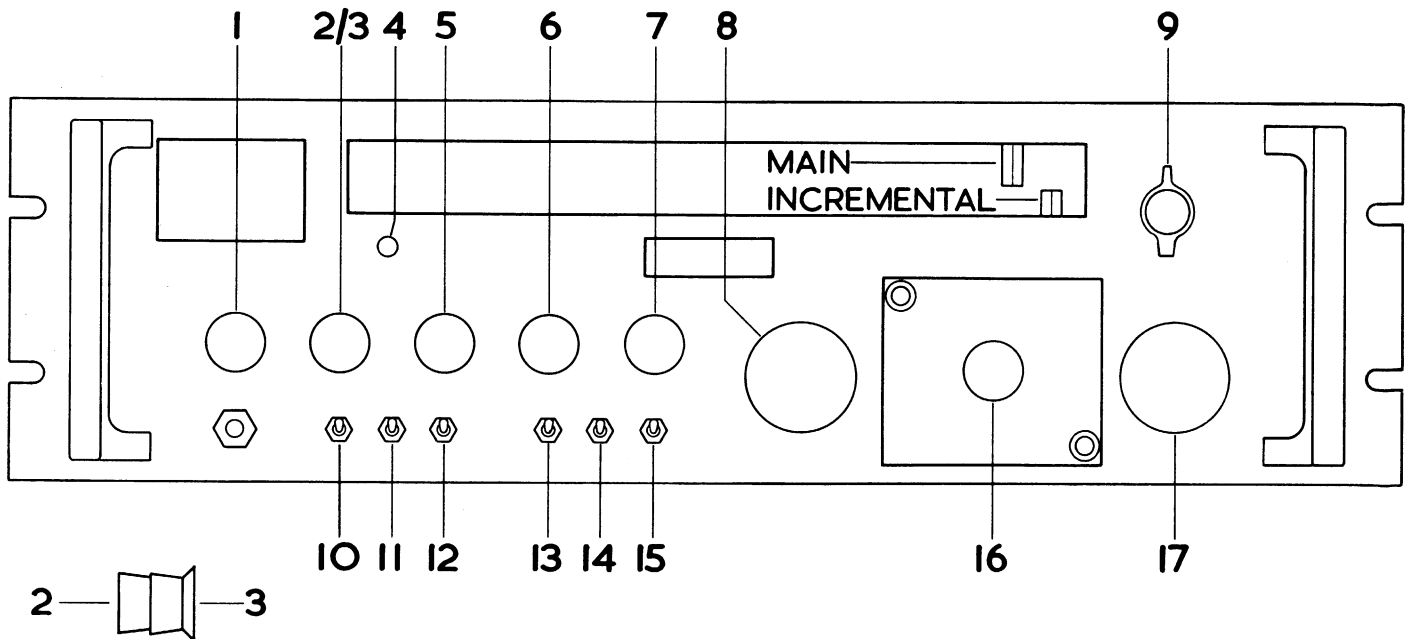

Fig. 5.1 1830 Series Panel Controls (Numbers correspond with text opposite)
CALIBRATOR SWITCH (11)	Numbers refer to Fig. 5.1 on page 26.